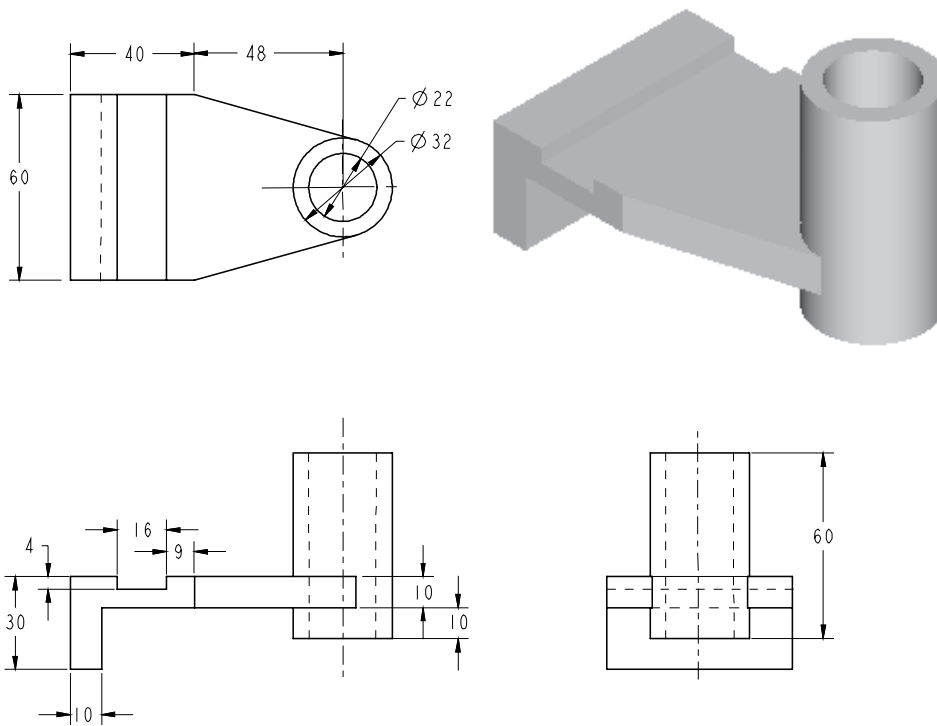

Figure 5-90 Top, front, right-side, and isometric views of the model
In this tutorial, you will create the model shown in Figure 5-90. This figure also shows the front, top, and right-side views of the solid model. **(Expected time: 45 min)**
- a. Examine the model and then determine the number of features in it, refer to Figure 5-90.